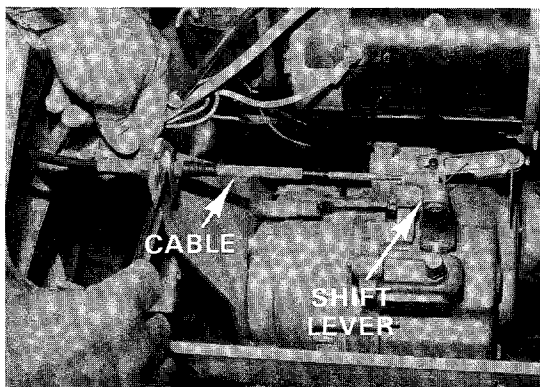

Figure 11-10
5. Remove transmission shifter cable assembly from bracket (Figure 11-10).